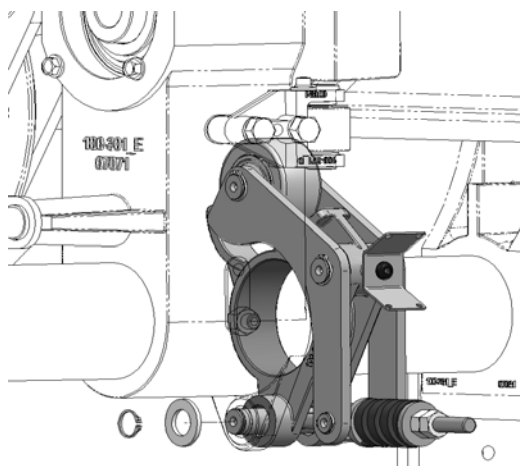

Figure 15 – Withdrawing the Reaction Roller
- Withdraw the reaction roller assembly from the wheel support casting (see Figure 15).